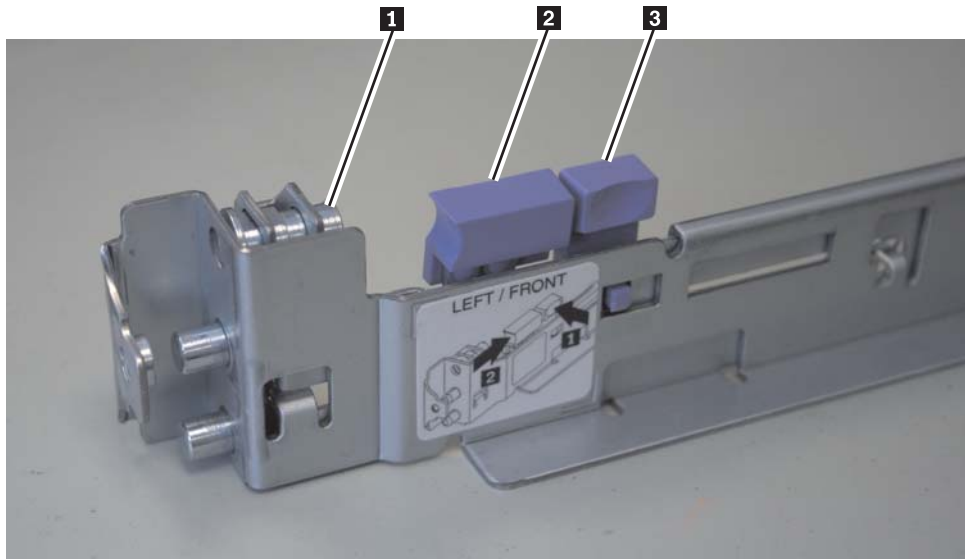

Figure 20. A closed rail-locking carrier at the front of the support rail for the SAN Volume Controller 2145-8A4
- a. Start with the left rail. If the front rail-locking carrier **1** is closed, as shown in Figure 20 on page 26, push the small tab **3** back away from the rail.